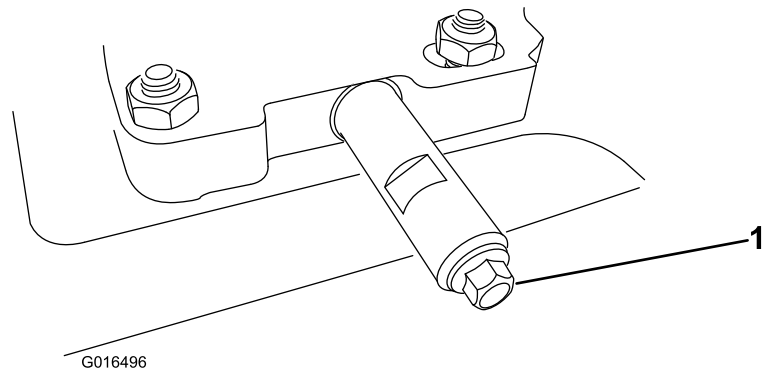

Figure 39
2. Clean the area around the oil-drain cap (Figure 39).